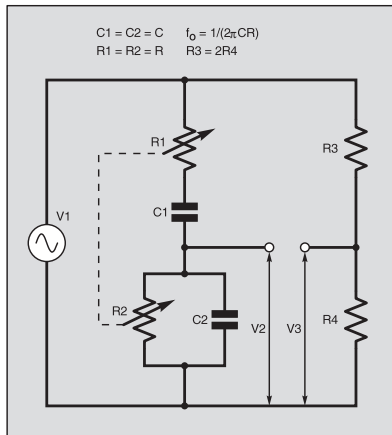
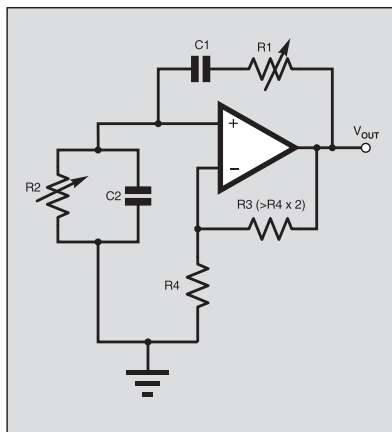
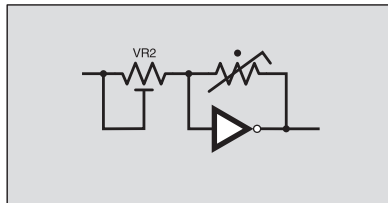
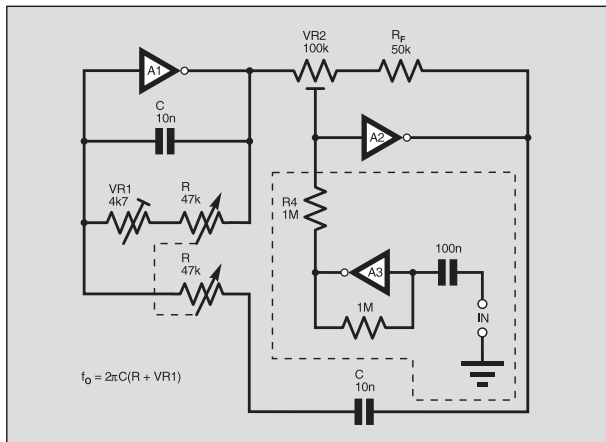

Fig. 13. Wien bridge.
Fig. 14. Wien bridge oscillator using an operational amplifier.
Fig. 16. Using a thermistor in place of  $R_F$  in Fig. 15.
Fig. 15. Inverter gate version of Wien oscillator. The A3 section can be added to inject an external synchronising signal.
The reactive (RC) arms of a Wien bridge (Fig.13) can be used to set the frequency of a sine wave oscillator formed around an op.amp (Fig.14). In a Wien bridge, when  $R1 = R2$ ,  $C1 = C2$  (the usual case) balance (zero output) is obtained when  $V2 = V3$ , in which case C then has a reactance equal to R.
In oscillators, use is made of the fact that RC arms of the bridge form a frequency-selective voltage divider whose output is greatest at  $f_o$ . At frequencies away from  $f_o$ , output falls. When this network is used as a positive-feedback path in an amplifier (Fig. 14) and the gain is just sufficient for oscillation, a sine wave at  $f_o$  is generated.
The standard circuit (Fig. 14) does not translate into inverter-oscillator form because an inverter has only one input terminal. It can, however, be adapted to a 2-inverter circuit, as illustrated in Fig. 15.
No device for automatic amplitude limiting is shown in Fig. 15. The job could be done by substituting a thermistor for the feedback resistance across A2 as in Fig. 16. VR2 would then provide oscillation level adjustment and should have a mid-value equal to the working thermistor resistance.
If very low distortion is not required, a fairly good sine wave can be obtained from the circuit as shown in Fig. 15 if set-up carefully, as follows: